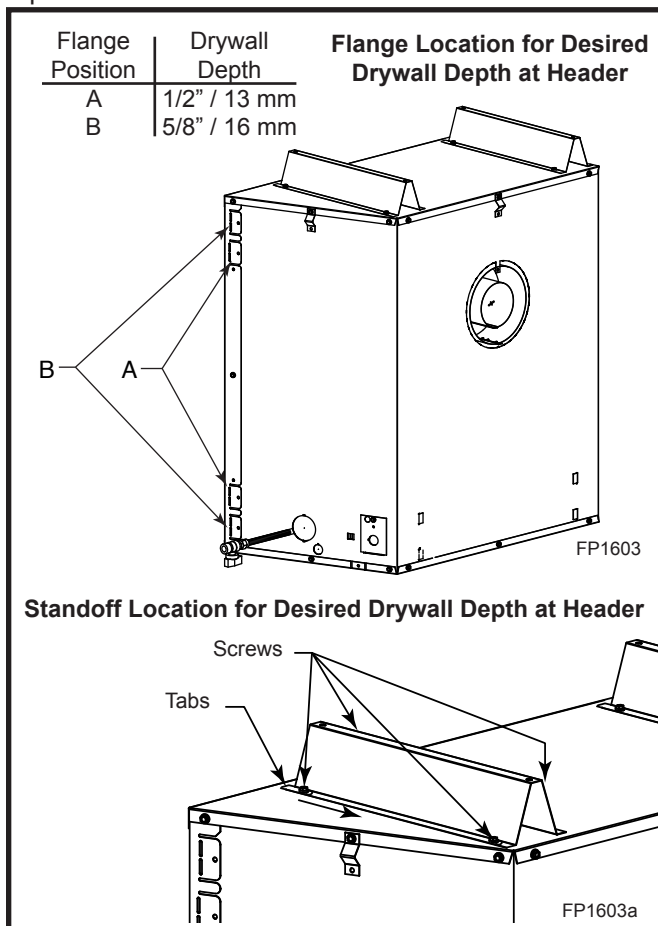

Fig. 4 Nailing flanges and standoffs.
2. This unit comes with four (4) flanges pre-mounted on both sides of the fireplace to allow two different drywall thicknesses to be used. Flange "A" is for 1/2" drywall while flange "B" is for 5/8" drywall.
4. The standoffs are adjustable for different drywall thicknesses. The unit is shipped from the factory at 1/2" (13 mm). Loosen the four (4) screws securing each standoff to the top of the fireplace. Slide the standoff back. Tighten the screws. This yields a 5/8" (16 mm) thick drywall space. Removing the standoff and having the tabs on the standoff face the rear of the unit yields a 3/4" (19 mm) drywall space. (Fig. 4)